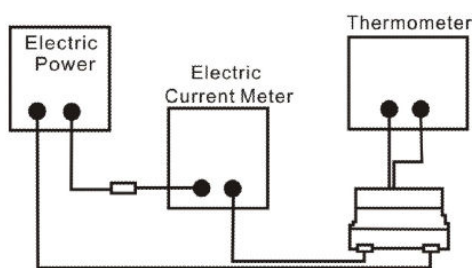

Fig.6.3.4-1
4. Definition of Temperature rise current: DC current that causes the temperature rise ($\Delta T = 40^\circ\text{C}$) from 20°C ambient (see Fig. 6.3.4-2).